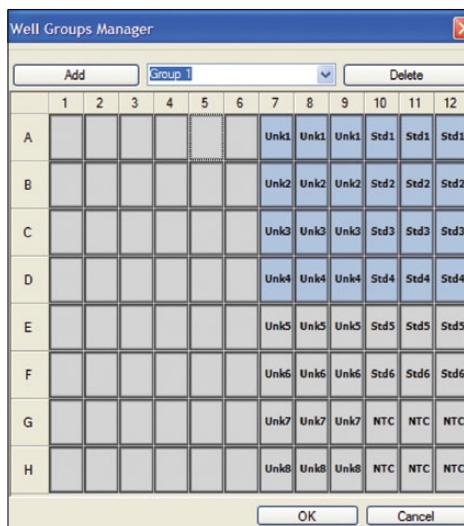

Fig. 5. Well Groups Manager window.
1. Click the **Well Groups** button in the Plate Editor toolbar. The Well Groups Manager window opens (Figure 5).